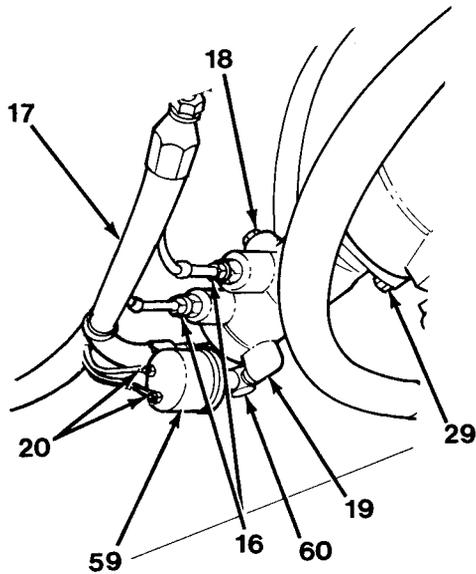

Figure 17-1
3. Position oil drain pan under master cylinder and brake booster valve (29, Figure 17-1).